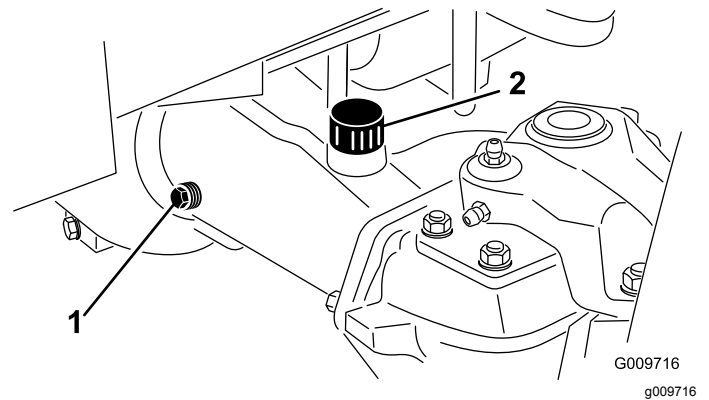

Figure 106
2. Remove a check plug from 1 end of the axle and ensure that the lubricant is up to the bottom of the hole (Figure 106).